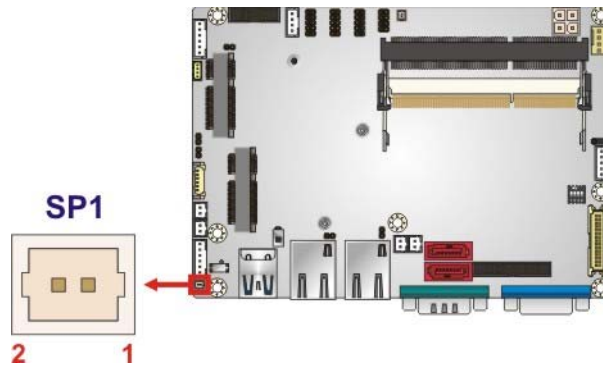

Figure 3-6: Buzzer Connector Location
- CN Location:** See **Figure 3-6**